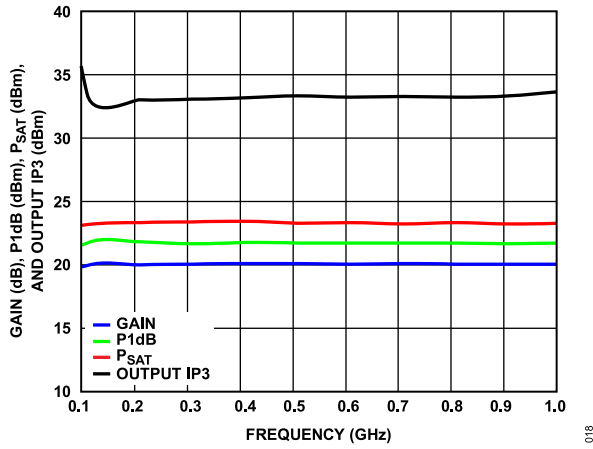
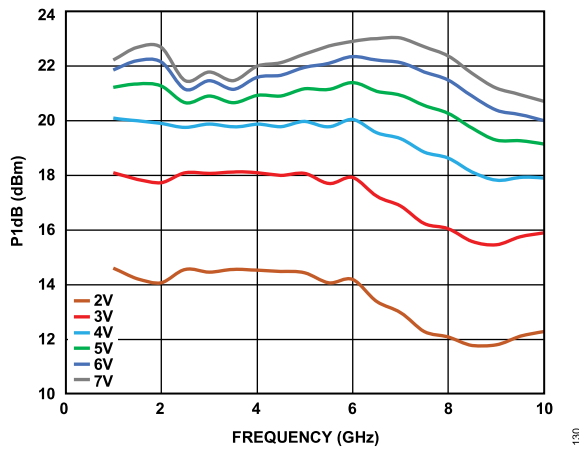
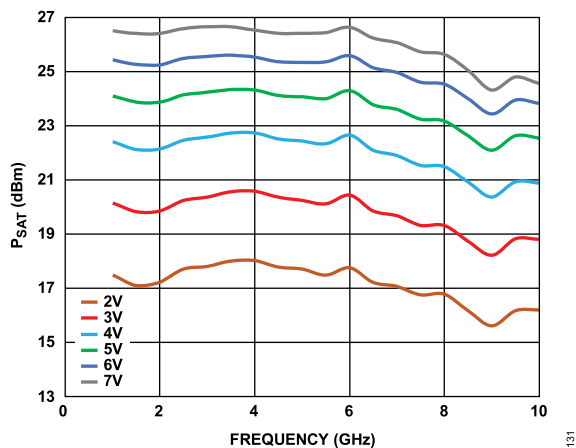

Figure 19. Gain, P1dB, P_{SAT}, and Output IP3 vs. Frequency
Figure 31. P1dB vs. Frequency for Various Supply Voltages, $I_{DQ} = 65$ mA
Figure 32. P_{SAT} vs. Frequency for Various Supply Voltages, $I_{DQ} = 65$ mA
Figure 19, Figure 31, and Figure 32 show that increasing the voltage from 2 V to 7 V typically increases P_{1dB} and P_{SAT} at the expense of power consumption with minor degradation on noise figure (NF).